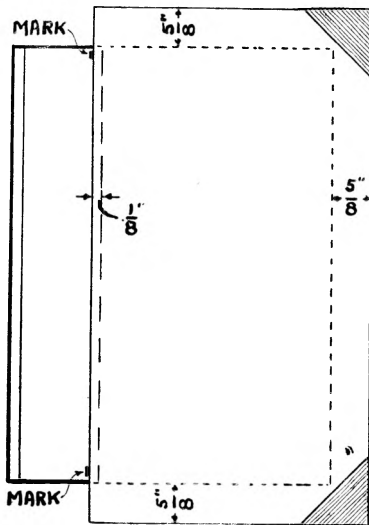

Fig. 87
SIDING A QUARTER-BOUND BOOK. 33. Make small marks on the cloth $\frac{1}{8}$ " from the edge at the head and tail, fig. 87. It is better to measure from the fore-edge of the boards to ensure that the cloth left exposed is parallel all the way down the book. Dividers set to the required distance make
the shaded portions in fig. 87.
34. The paper sides are next cut long enough to overlap the head and tail by $\frac{5}{8}$ " and also $\frac{5}{8}$ " wider than the distance stepped out on the boards, i.e., from mark to fore-edge, fig. 87.